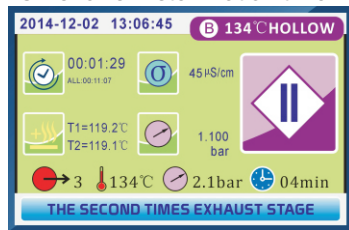

Fig.5.3-9
5.3.1.6.THE SECOND TIMES EXHAUST STAGE(Fig.5.3-9)